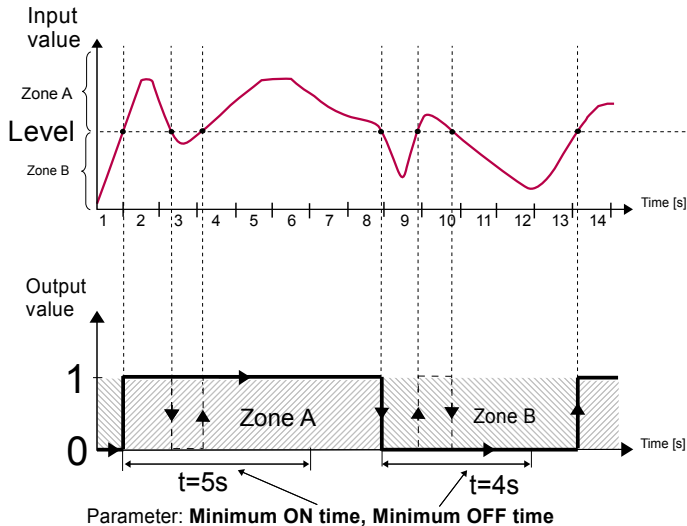

Fig. 7.69. Principle of relay output operation for sample timing settings: **Min. ON time**=1 sec., **Min. OFF time**=4 sec.
- **Minimum ON time** - the minimum duration of a high state (if the output switches to high state the low state will occur after the **Minimum ON time**), see Fig. 7.69
- **Minimum OFF time** - the minimum duration of a low state (if the output switches to low state the high state will occur after the **Minimum OFF time**), see Fig. 7.69